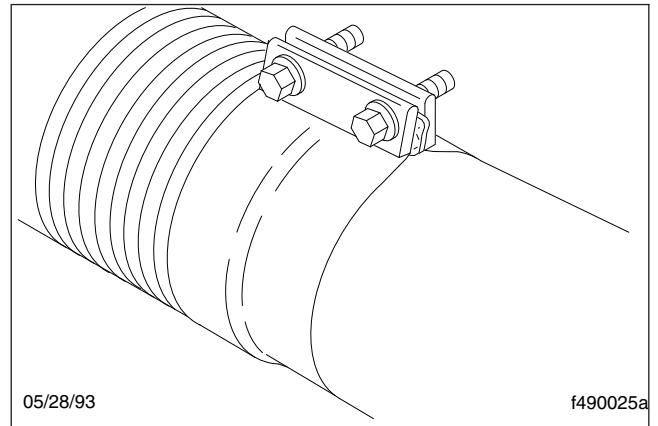

Fig. 8, Donaldson Sealclamp Wide-Band Exhaust Clamp
- Check for leakage at all wide-band exhaust clamps. See Fig. 8.